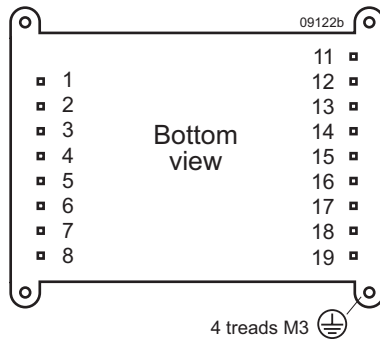

Fig. 15
- Reinforced insulation input to output for 110IMY70 models, basic insulation to the case, based on the input voltage of 150 V. The case must be reliably connected to PE (protective earth) – except option Z; see fig. 15.